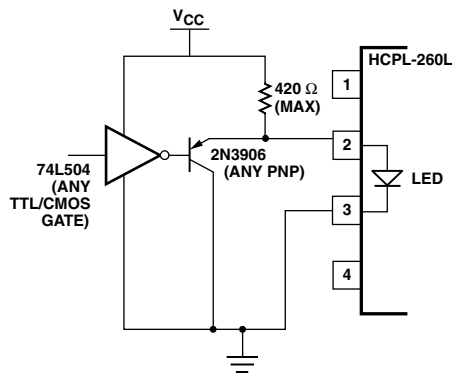

Figure 15. TTL interface circuit.
1. Use of drive circuits where current is shunted from the LED in the LED "off" state (as shown in Figures 15 and 16). This is beneficial for good  $CMR_{FH}$ .
Figure 15 shows a circuit which can be used with any totem-pole-output TTL/LSTTL/HCMOS logic gate. The buffer PNP transistor allows the circuit to be used with logic devices which have low current-sinking capability. It also helps maintain the driving-gate power-supply current at a constant level to minimize ground shifting for other devices connected to the input-supply ground.